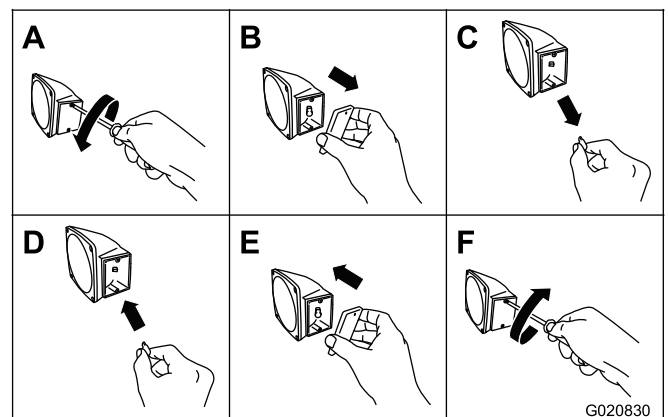

**Figure 56**
1. Use a screwdriver to remove the 4 screws from the large square lens on the light (Figure 56).
2. Remove the lens (Figure 56).
3. Push and twist the bulb counterclockwise to remove it from the socket (Figure 56).
4. Push a new 1157 bulb into the socket and then twist it clockwise (Figure 56).
5. Install the lens and the 4 screws (Figure 56).